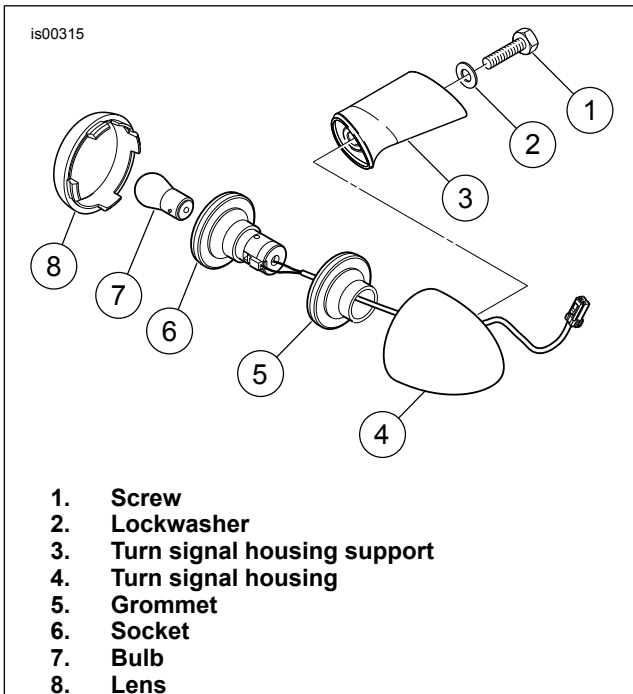
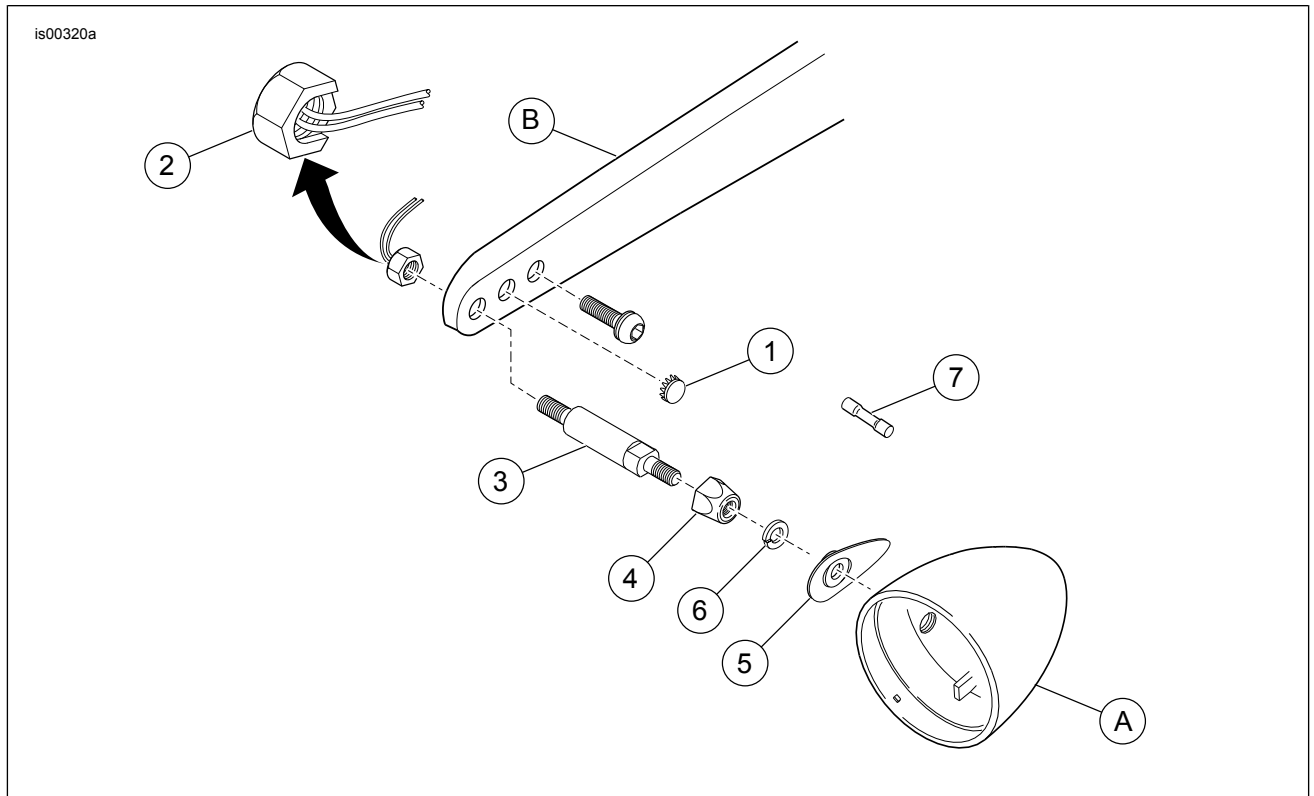

Figure 3. Stock Turn Signal
Figure 6. Service Parts: Softail Turn Signal Relocation Kit
See Figure 6 and Table 1.
8. See Figure 3. Remove lens and bulb from each rear turn signal housing (Figure 6, Item A).
1. Thread wires for each turn signal from turn signal socket through grommet (Figure 3) and turn signal assembly (Figure 6).
2. See Figure 6. Route wires starting through threaded hole inside turn signal housing (A).
3. See Figure 6. Route wires for each turn signal assembly through rearmost hole in fender support (B), through special nut (2), and inside fender. Allow about 152 mm (6 in) of wire between fender supports and turn signal sockets.
5. Thread each stalk into special nuts, taking care to maintain the position of the notch in the nut. Tighten each stalk (3) to 20.3 N·m (15 ft-lbs).
7. See Figure 6. Loosely fasten jam nuts (4) onto stalks (3).
10. Tighten jam nut (4) against the housing to 11–13 N·m (96–120 in-lbs).
13. Fasten hole plug (1) into remaining hole in fender support.